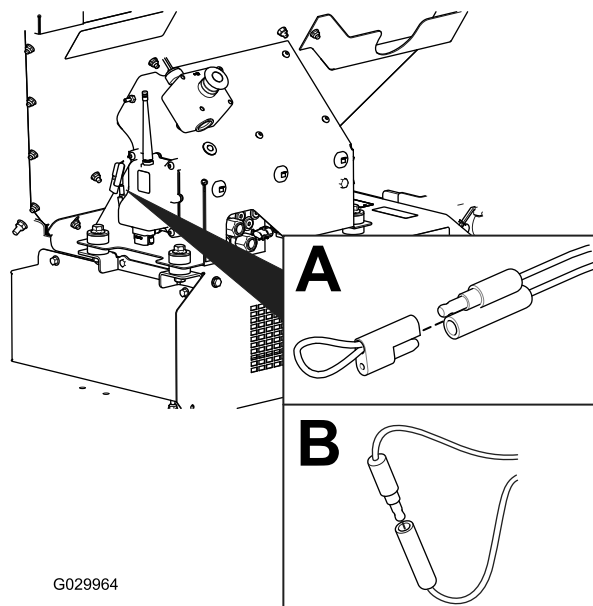

Figure 27
2. Pull the tethered cap off of the two diagnostic, shunt connectors (Figure 27, A).
3. Connect the diagnostic, shunt connectors together (Figure 27, B).
2. Disconnect the diagnostic, shunt connectors (Figure 27, B).
3. Push the tethered cap onto the two diagnostic, shunt connectors (Figure 27, A).